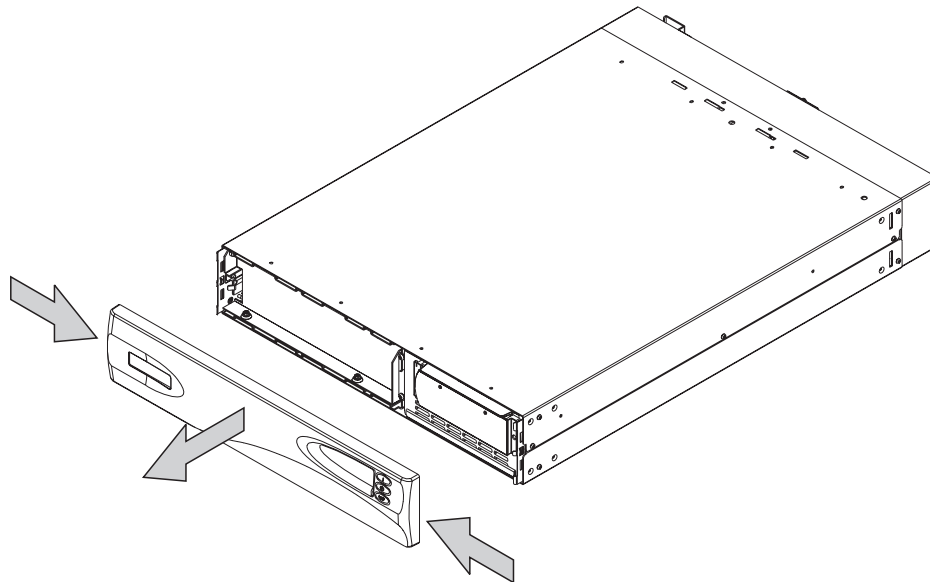

Figure 245. Removing the 2145 UPS front panel
2. Remove the front panel by pressing the sides inward, and pulling on both ends towards you, as shown in Figure 245.